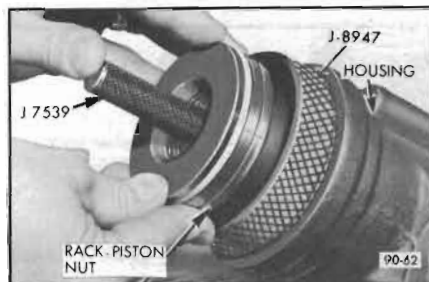

Figure 90-62—Installing Rack-Piston Nut - 43, 44 and 45000 Series Gears
6. Install ring compressor sleeve Tool (J-8947 used for 43, 44 and 45000 Series. J-7556 used for 46, 48 and 48000 Series) in gear housing and hold it tightly against shoulder in the housing. See Figures 90-62 and 90-36. Insert the